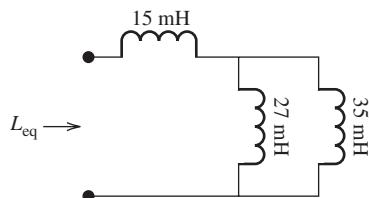

FIGURE P4.43 Circuit for Problem 4.43.
- 4.43 (B)*** For the inductor network in Figure P4.43, what is the equivalent inductance, L_{eq} ?